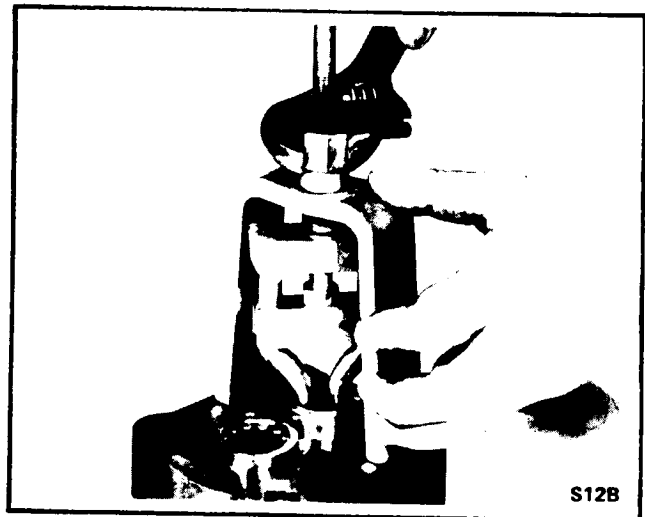

Fig. 13 - Pulling Roller Bearings
11. Examine all roller bearings for scoring, spalling, or pitting. If replacement is necessary, pull the bearings with a bearing puller. See Fig. 13.